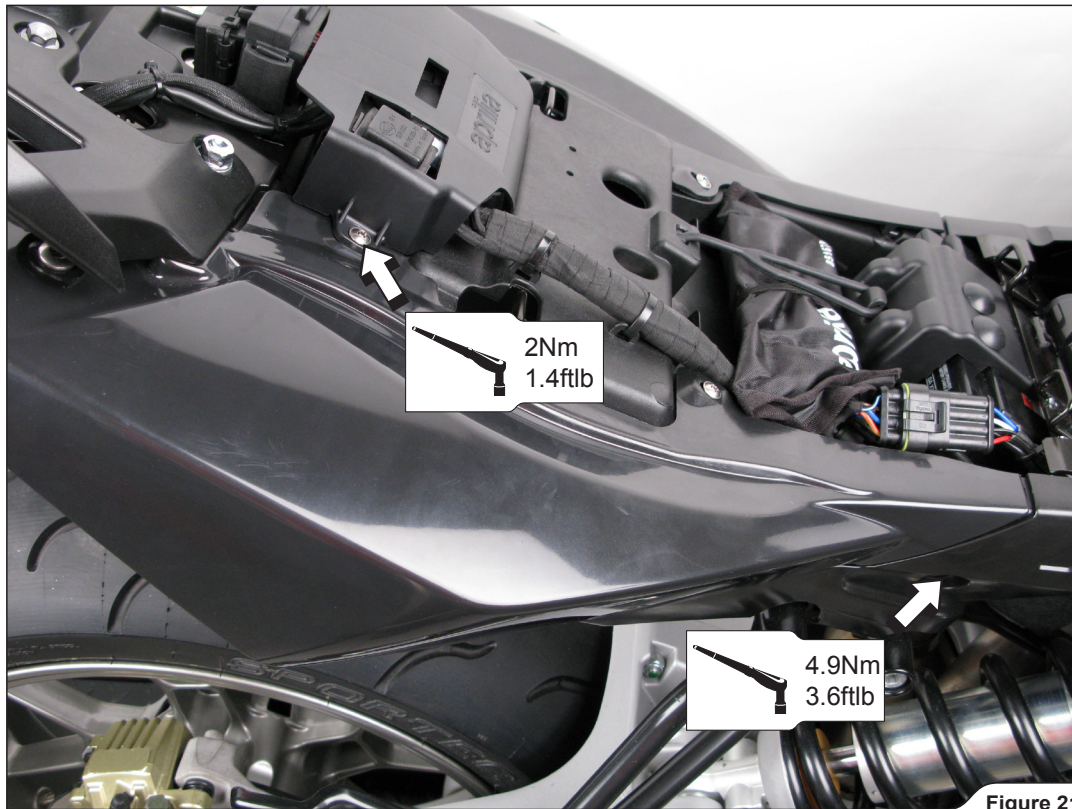

Figure 21
9. Reinstall the the plastic connector cover and tighten the lower muffler cowling bolts on both sides of the motorcycle (Figure 21).